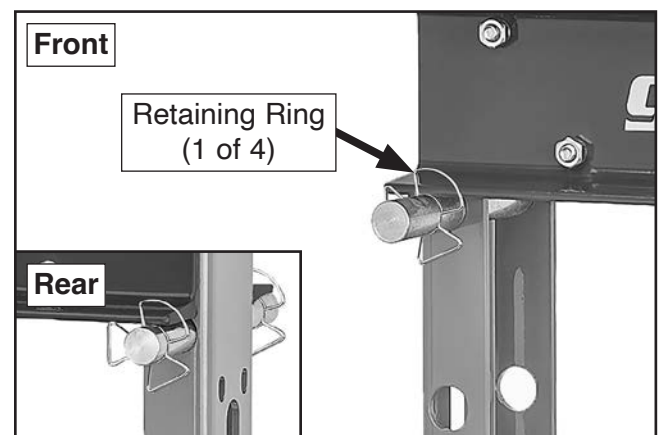

Figure 20. Example of retaining rings on support rods.
6. Insert (2) support rods through desired bed adjustment holes, then rotate winch handle counterclockwise to lower bed onto support rods.
7. Install (2) retaining rings removed in **Step 4** on rear grooves in support rods to secure (see **Figure 20**).